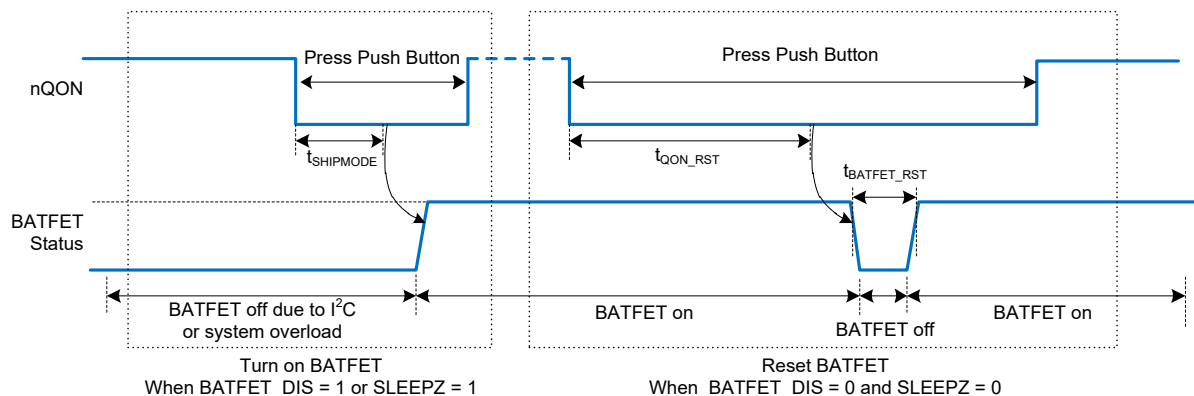

Figure 10. nQON Enable and Reset BATFET Timing
1. Enable BATFET: Applying an nQON logic high to low transition with longer than  $t_{SHIPMODE}$  deglitch time (negative pulse) turns on BATFET to exit ship mode (Figure 10 left). When exiting shipping mode, HIZ is enabled (EN\_HIZ = 1) as well. HIZ can be disabled (EN\_HIZ = 0) by the host after exiting shipping mode. OTG cannot be enabled (OTG\_CONFIG = 1) until HIZ is disabled.
2. Reset BATFET: By applying a logic low for a duration of at least  $t_{QON\_RST}$  to nQON pin while VBUS is not powered and BATFET is allowed to turn on (BATFET\_DIS bit = 0), the BATFET turns off for  $t_{BATFET\_RST}$  and then it is re-enabled resulting in a system power-on reset (Figure 10 right). This function can be disabled by clearing BATFET\_RST\_EN bit.